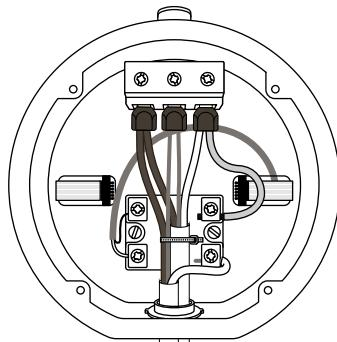

Figure 5.11
15) The completed electrical installation of the MODEL 1X is shown in Figure 5.11. Replace the back cover and secure with the four screws.